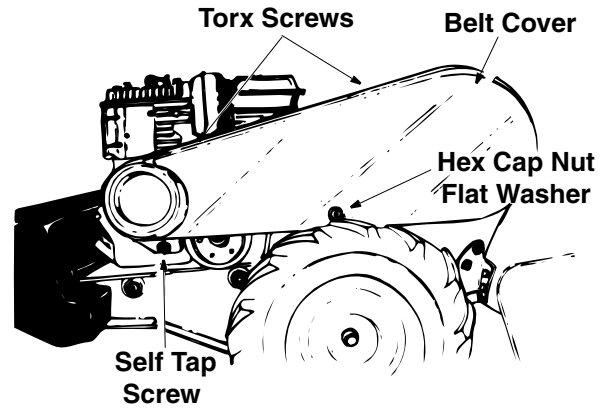

Figure 10
- Remove the belt cover from the left side of the tiller as follows: See Figure 10. Remove two torx screws from the top of belt cover.